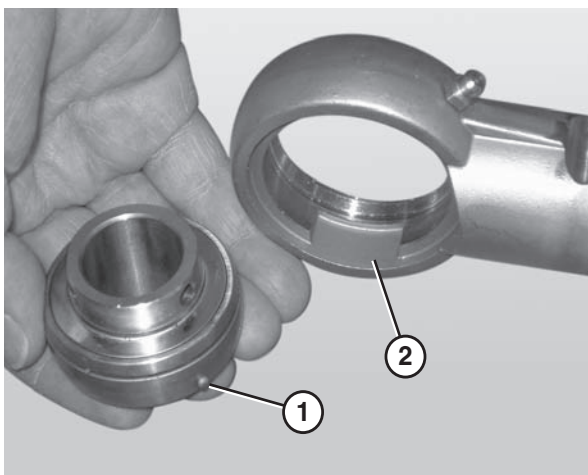

Figure 88
4. Remove the worn or damaged bearing (**Figure 88**).
When inserting the new bearing, make sure the anti-rotation notch (Figure 88, item 1) on the bearing lines up with the groove inside the housing (Figure 88, item 2).